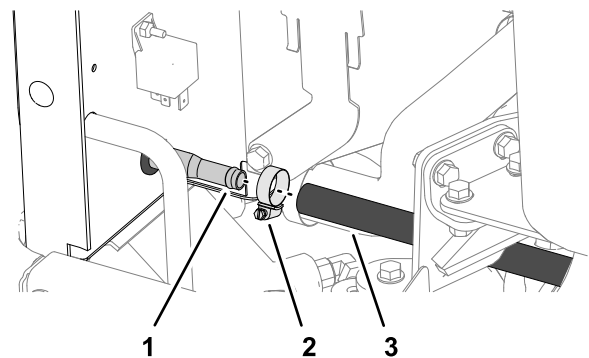

Figure 12
2. Remove the hose clamp that secures the hydraulic cooler-inlet hose to the inlet hydraulic tube, and separate the hose from the tube (Figure 12).